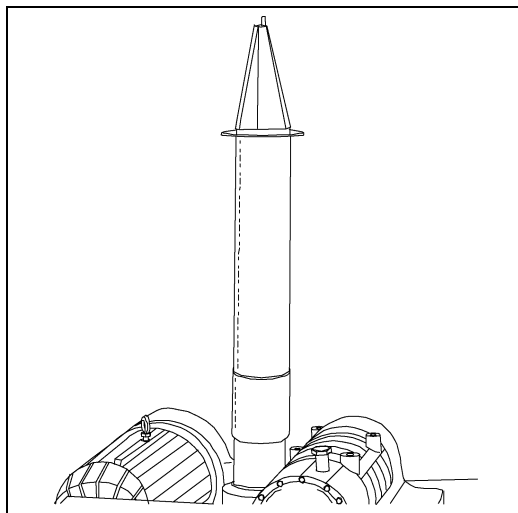
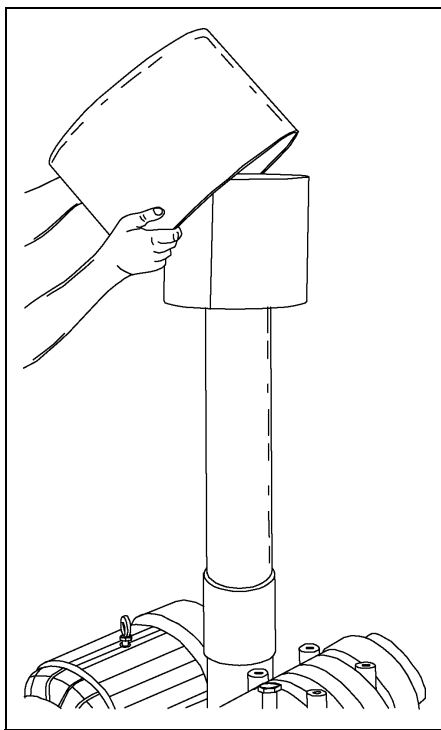
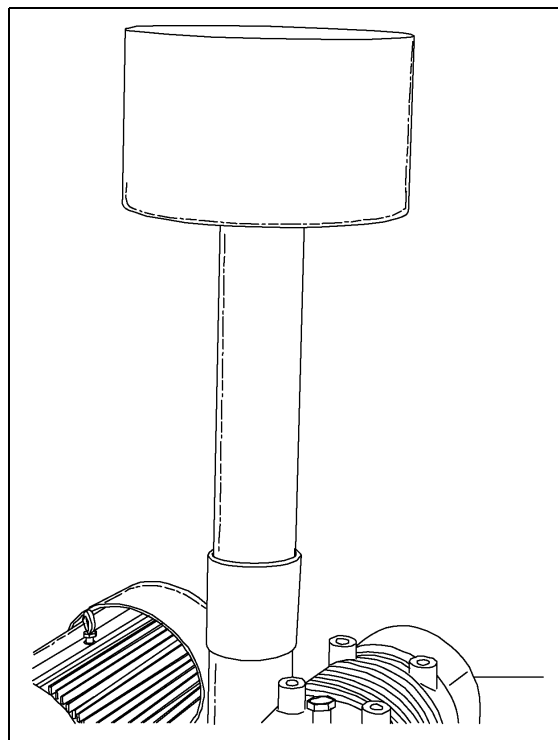

Figure 7A
Figure 7B
Figure 7C
1. The air filter extension tube and housing are connected to the blower inlet by a compression coupler. (See Figure 7A, Figure 7B and Figure 7C.) For extended filter life, if the pneumatic system is being operated in extremely dirty conditions, a longer extension tube can be used between the blower inlet and the air filter. BE SURE the air filter is positioned so that routine inspection and service can be performed.
2. Place the air filter element with pre-filter on the base and cover with the filter canister using the 3/8" wing nut and washer. The wing nut does not need to be more than finger tight. (See Figure 7B and Figure 7C.)